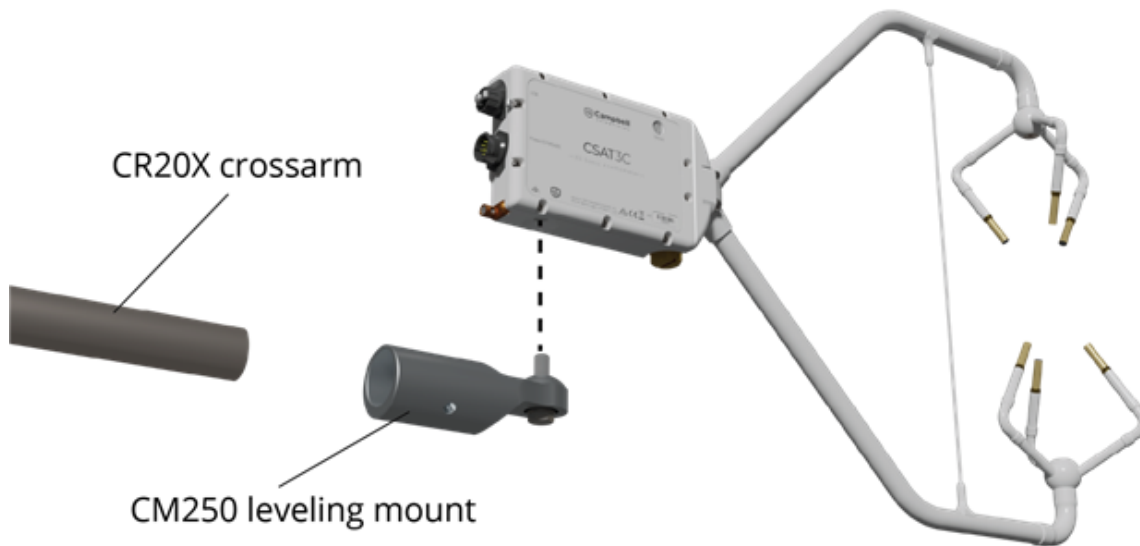

Figure 6-4. CSAT3C mounting
3. Attach the CM250 leveling mount (included with the CSAT3C) to the crossarm by tightening the set screws on the boom adapter with a 3/16-in hex socket head wrench. Refer to Figure 6-4 (p. 26).
4. Attach the CSAT3C to the leveling mount by inserting the bolt on the mount into the threaded hole on the bottom of the CSAT3C block as shown in Figure 6-4 (p. 26). The orientation of the CSAT3C should be level and pointing in the direction of the prevailing wind.